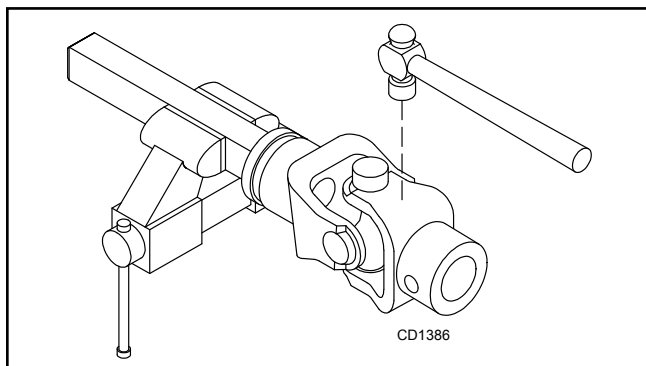

Figure 23. Remove Bearing Cups
2. With snap rings removed, support drive in vise, hold yoke in hand and tap on yoke to drive cup up out of yoke. See Figure 23.